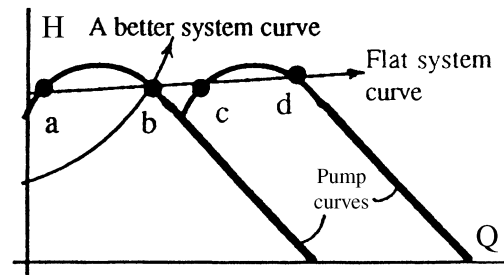

Fig. P11.83
**11.83** The low-shutoff head-versus-flow curve in Fig. P11.83 occurs in some centrifugal pumps. Explain how a fairly flat system-loss curve might cause instabilities in the operation of the pump. What additional vexation occurs when two of these pumps are in parallel? How might we avoid instability?